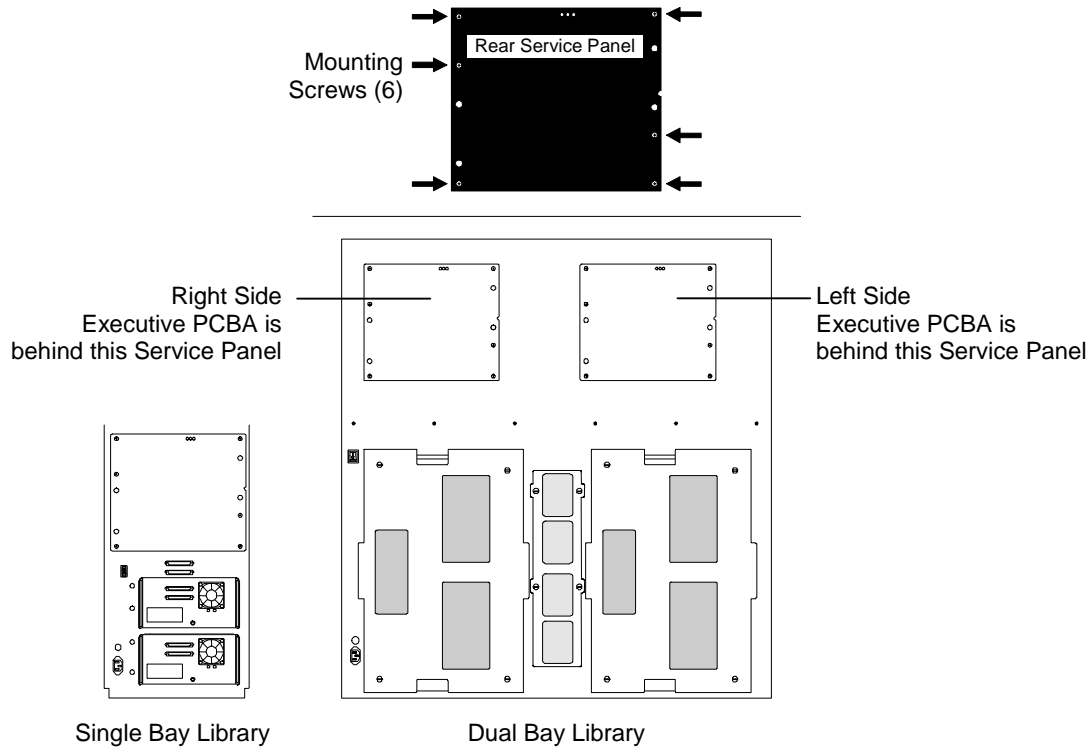

Figure 7-44 View of Rear Service Panels
2. Use a number 2 Phillips screwdriver to remove all six Rear Service Panel mounting screws, then remove the Rear Service Panel (Figure 7-44).
13. Reinstall the Rear Service Panel, then use a number 2 Phillips screwdriver to reinstall all six Rear Service Panel mounting screws (Figure 7-44).